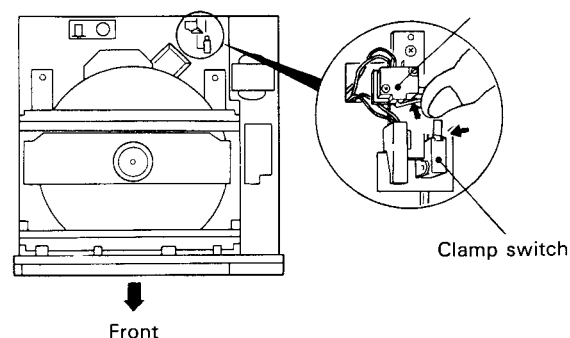

Fig.7
1. Switch the power on while pressing the slide switch, and then immediately press the play key. Release the slide switch after the disc starts to turn. (Fig.7)